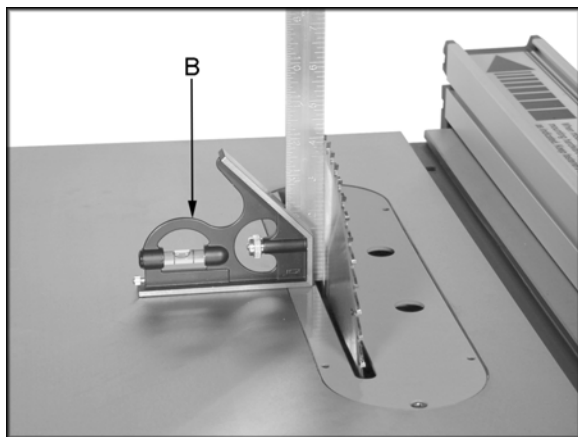

Figure 11
1. Place a square on the table as shown in Figure 11 then turn the saw tilt wheel until the blade comes to 90 degree.